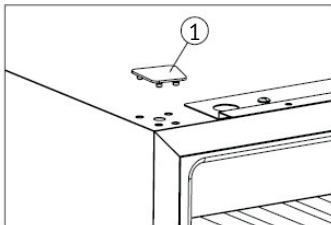

Figure 3
- ➲ Remove the germinal lid ① (Figure 3).